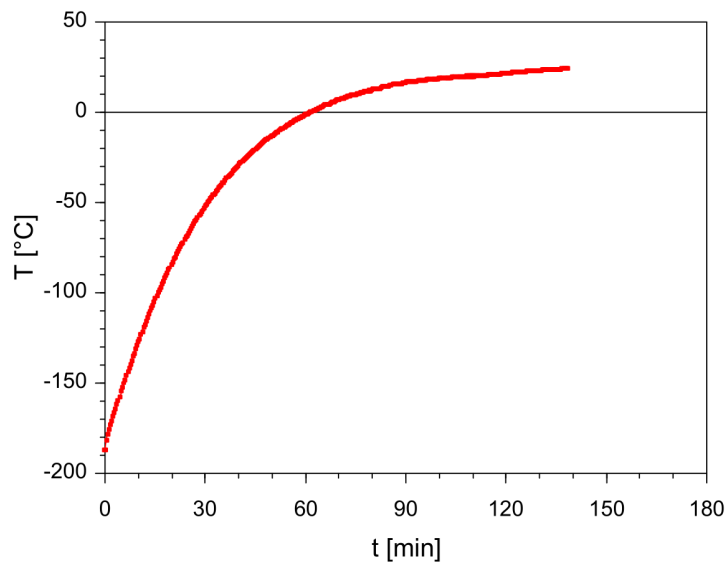

Figure 7: Specimen temperature as a function of time during a spontaneous heating in Low Temperature Mode (ambient temperature was approx. 25 °C).
3.1.1.5.2 Temperature Rate As the specimen is heated spontaneously, the heating rate cannot be set manually and the **Temperature Rate** options are disabled. The actual heating rate is proportional to the temperature difference between the specimen temperature and ambient temperature. The heating rate is therefore relatively fast in the beginning, slowing down at the end when the ambient temperature is gradually reached (see Figure 7).